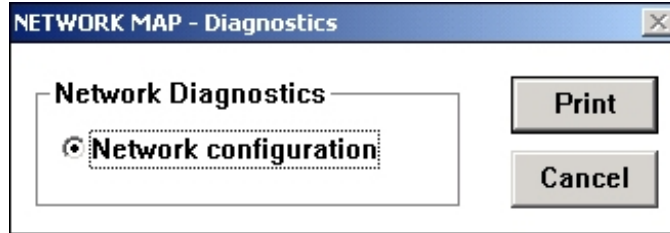

Figure 17-6: Network Diagnostics Dialog Box
2. On the Action menu, click Diagnostic. The Network Diagnostics dialog box appears (Figure 17-6).